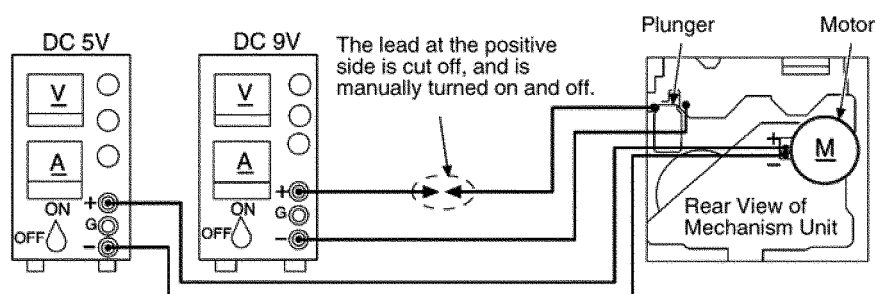

Fig. 1
2. Supply DC5V to MOTOR. (→ MOTOR rotates.) (Fig. 1)
4. Supply DC9V to the plunger, and turn the power ON and OFF. (→ Power +PL, -PL) (Fig. 1)